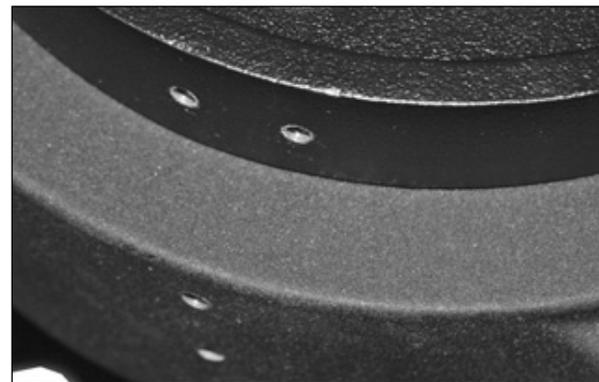

Fig. 4: Wedge is not flush with tripod's edge.
**Version 2:** If the wedge (1, Fig. 4) is NOT flush with the edge of the tripod (2, Fig. 4), as depicted in Fig. 4: